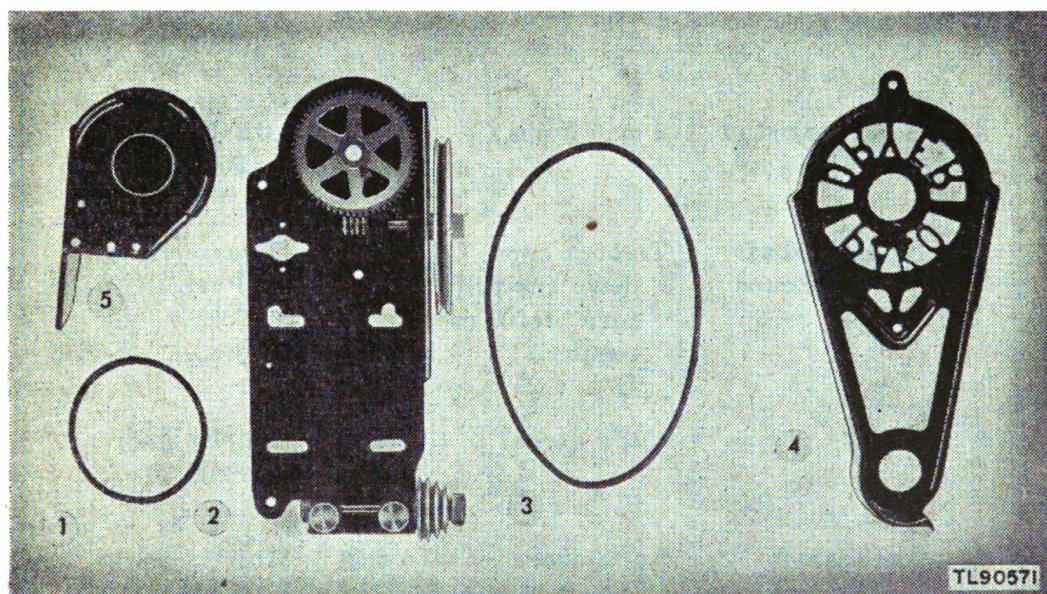

Figure 10. Gear reduction system, disassembled.
**e. Motor.** Bolt the motor shelf casting to the bracket casting with the two bolts. Then bolt the motor to the shelf with the four bolts from the cloth bag (fig. 6). Be sure that the cone pulleys on the countershaft and the motor shaft are aligned with each other. Place the short belt (fig. 10 ①) over either the first, second, or third pair of grooves in the two cone pulleys.
**e. Worm and Main Gear.** The worm and main gear (fig. 10 ②) located under the gear cover on the motor bracket should be inspected for wear every 6 months. Make the inspection when the cover (fig. 10 ④) is removed for lubrication. Replacement of the worm-shaft assembly and main gear is advisable when the teeth are worn in half.